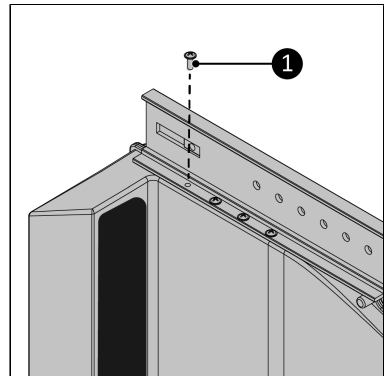

Figure 88.
6. Screw the main rail to the Way-out using the eight 3,5 x 12 mm screws (Figure 88, pos. 1). Make sure all screw holes match up.